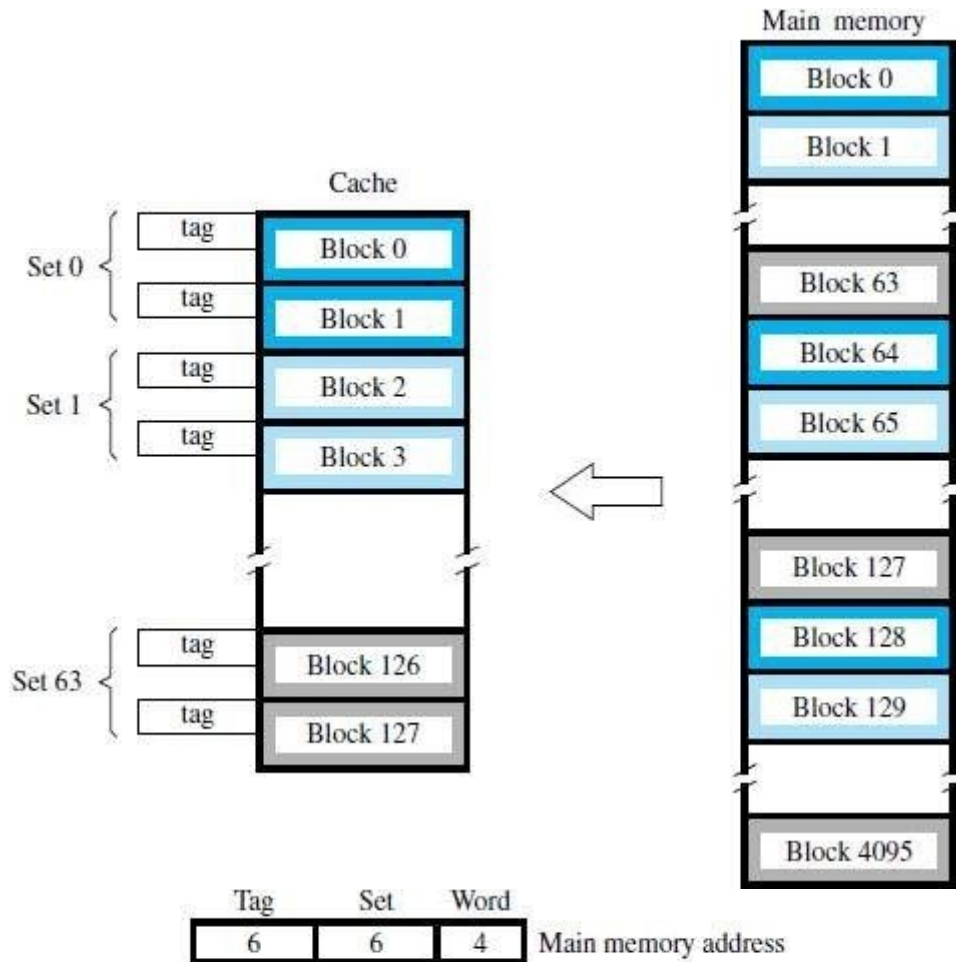

Figure 8.18 Set-associative-mapped cache with two blocks per set.
- It is the combination of direct and associative mapping. (Figure 8.18).